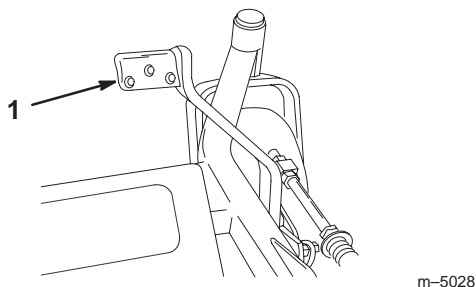

Figure 21
2. Press on lift assist while pulling up on height-of-cut lever (Fig. 21).